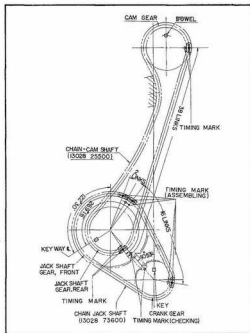

Fig. EM-83
4. Place Jackshaft sprocket-Front and Crankshaft sprocket into Jackshaft chain, aligning the timing marks of Sprockets with those of Timing chain as shown in Fig. EM-83.